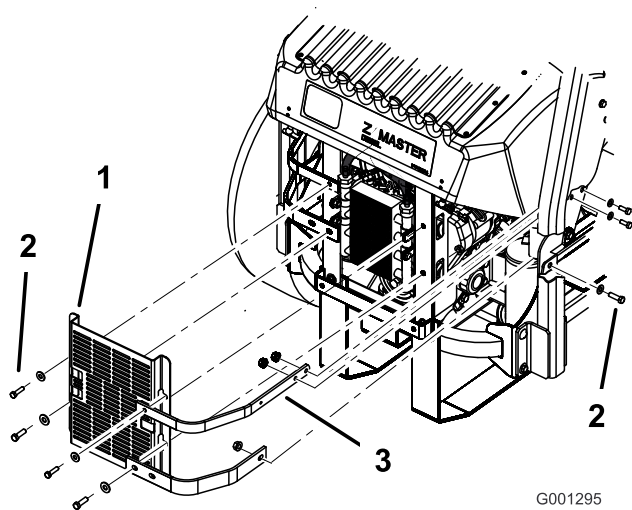

Figure 65
3. Remove the 4 bolts holding the oil cooler shield to the rear frame (Figure 65).
4. Remove the 3 bolts holding the engine straps to the side of the machine (Figure 65).
- Install the oil cooler shield and engine straps to the rear frame with the 4 bolts previously removed (Figure 65).
- Install the engine straps to the side of the machine (Figure 65).